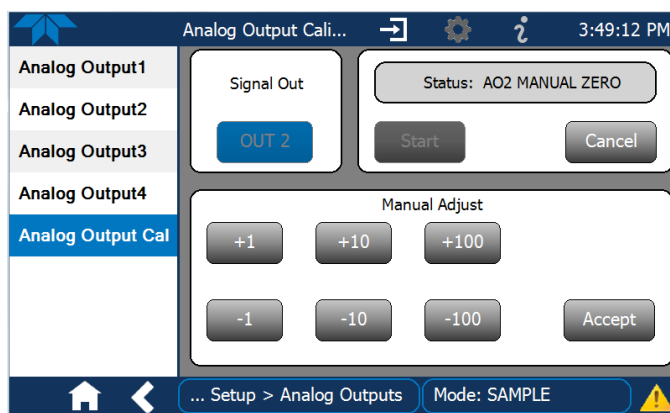
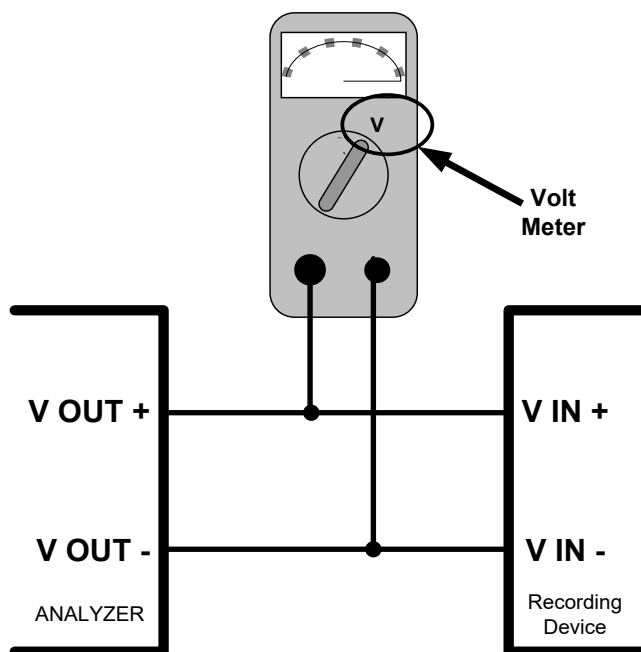

Figure 2-46. Analog Outputs Manual Calibration Screen (AOUT2 Example)
Figure 2-47. Setup for Checking / Calibrating DCV Analog Output Signal Levels
- MANUAL for individual calibration (Figure 2-46) of analog outputs where manual adjustments can be made (the only calibration type allowed when Current is selected for the Range). See Sections 2.5.8.1 and 2.5.8.2 .
It is possible to manually calibrate the voltages by using a voltmeter connected across the output terminals (Figure 2-47) and changing the output signal level in the Manual Adjust field of the Analog Outputs Calibration screen (Figure 2-46). Refer to Table 2-12 for voltage tolerances.